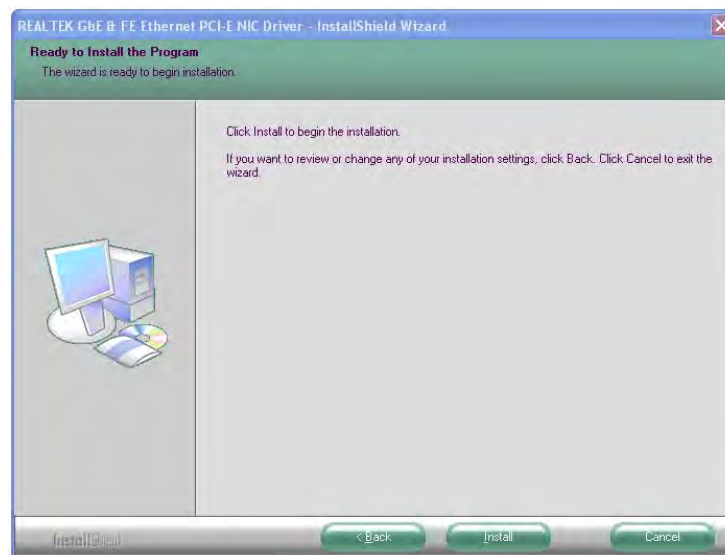

Figure 6-14: LAN Driver Ready to Install Screen
Step 6: The **Ready to Install the Program** Screen in **Figure 6-14** appears.